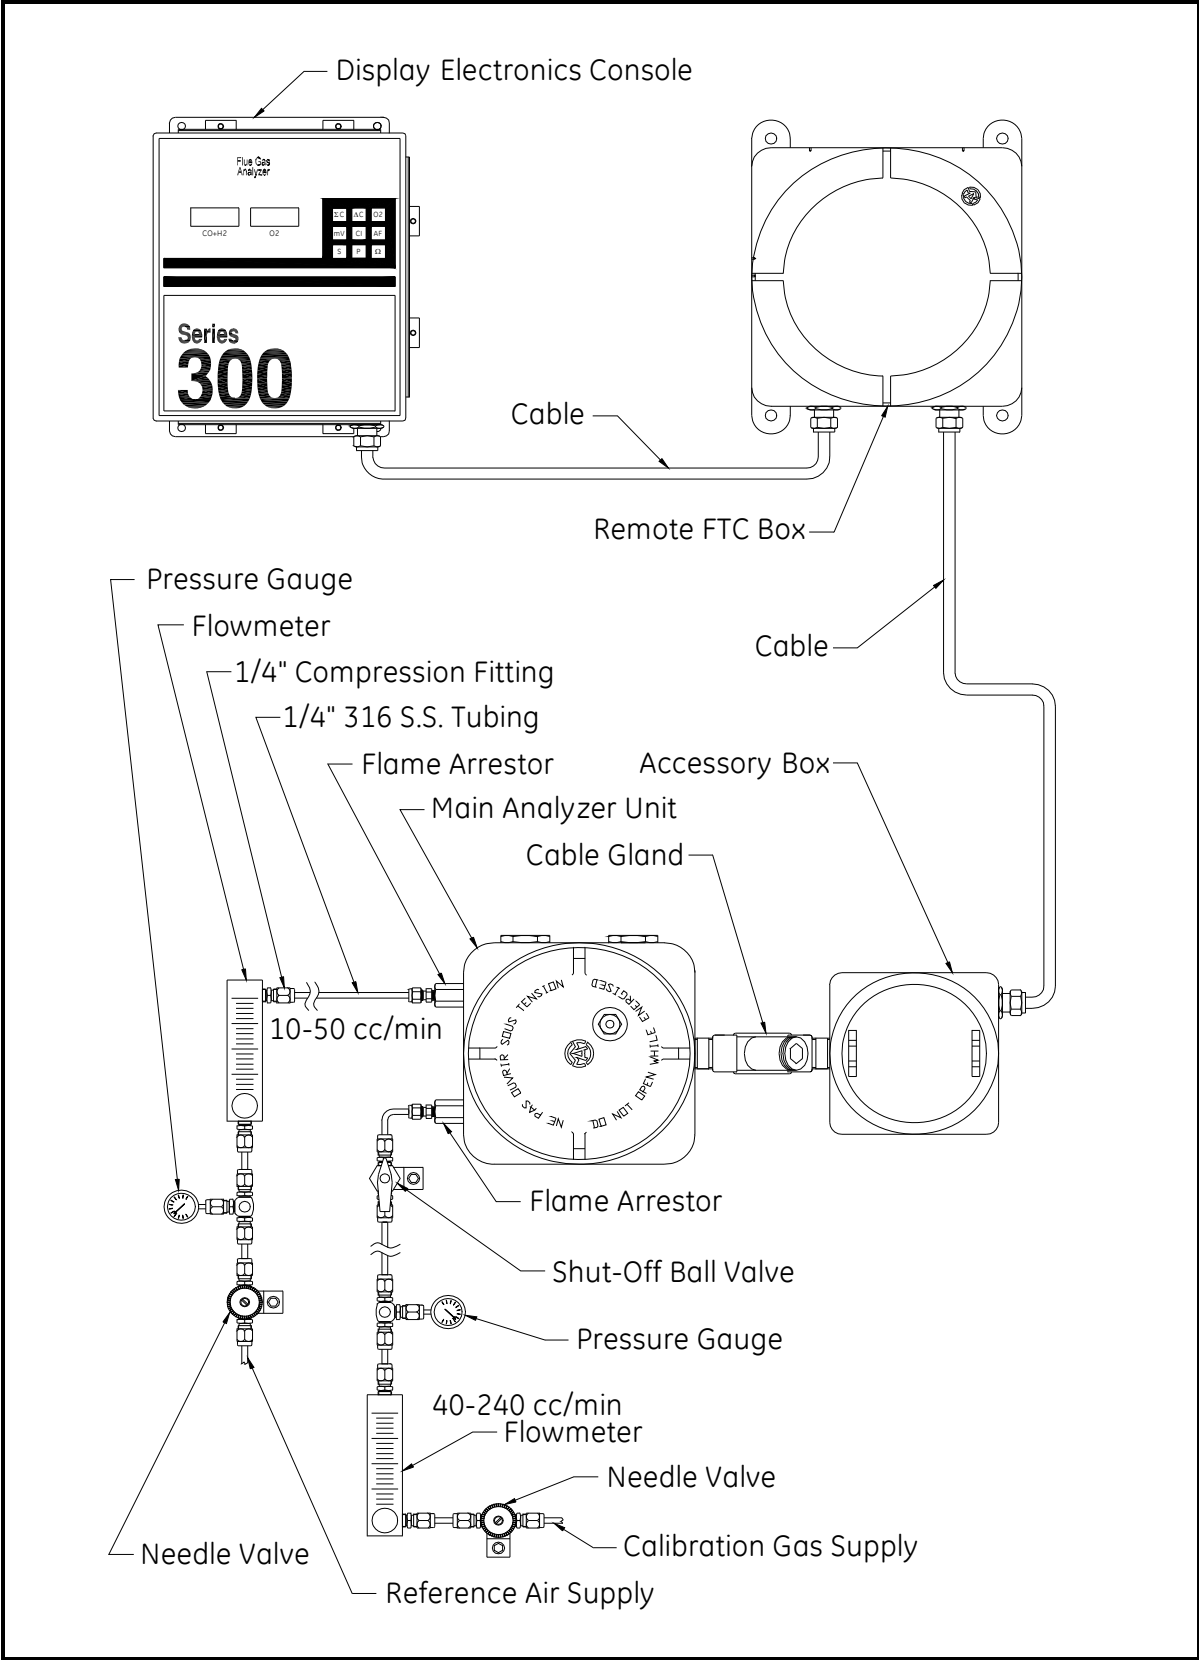

Figure 22: A Complete FGA 300VX System
Since no two installations are identical, it is not possible to provide exact instructions and specifications for this ancillary equipment. However, the system shown in Figure 22 on page 35 should serve as a good general guideline for most situations. The all-inclusive diagram in Figure 22 on page 35 is not intended to imply that all of the components shown are required in every situation. Only those items deemed appropriate for the intended application need be considered.
**Note:** *Figure 22 shows a system with a 300VX explosion-proof (flameproof) unit and remote FTC Box and a standard Display Console. Although other combinations of standard and flameproof enclosures for these components are possible, the fundamental connections shown in Figure 22 remain unchanged.*